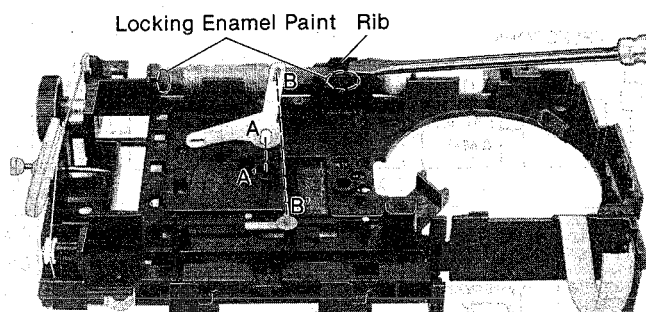

Fig. 11
*3 During installation, simultaneously fit in A and A', B and B'. (Fig. 11).